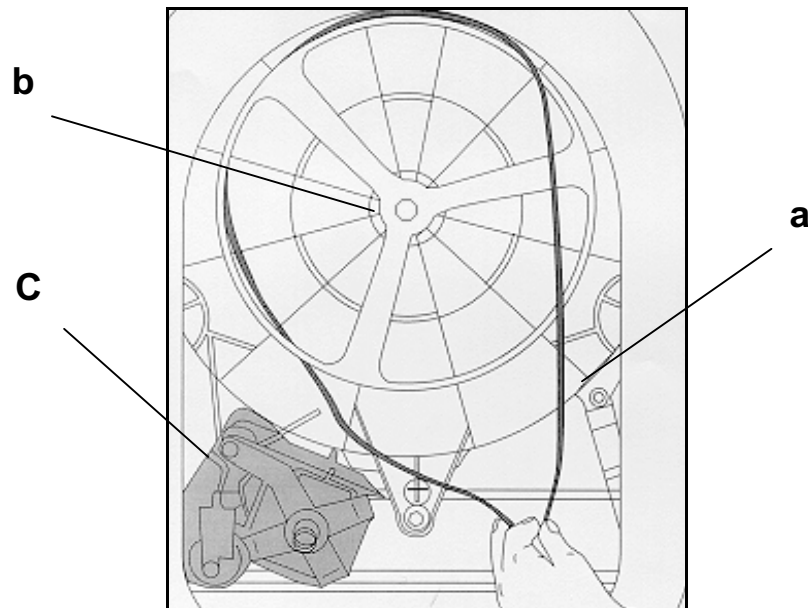

Figure-15
- Poly-V belt is pulled off while turning over the pulley (Figure-15)
- Back cover is disassembled and Poly-V belt is removed (Figure-15)
- Poly-V belt is removed (Figure-15)